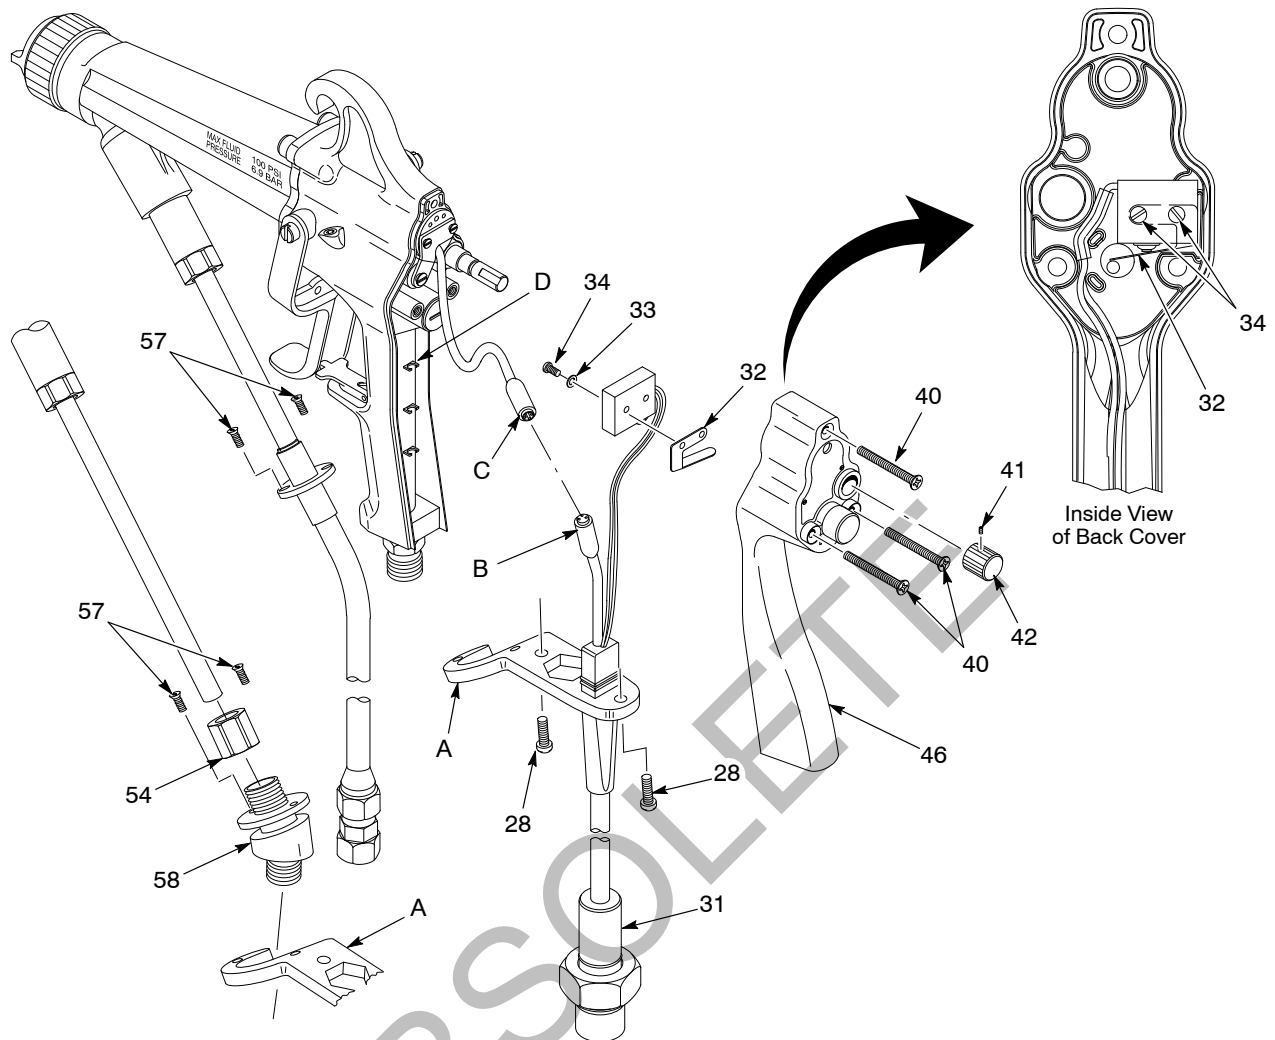

Figure 7-10 Gun Cable Replacement
See Figure 7-10.
1. Secure the actuator switch (32) and electrostatic cable (31) to the back cover with its screws (34) and washers (33).
**NOTE:** The actuator switch should be placed as shown in Figure 7-10. The wires should be to the left of the switch and the metal clip should be placed behind the switch so that its arm extends along the bottom of the switch from the right.
2. Connect the cable connector (B) to the multiplier connector (C).
**NOTE:** Make sure the cable is snapped into the ribbed slots (D) in the back of the handle.
3. Secure the cable bracket to the handle and back cover using the two screws (28). Tighten the screws to 1.36–1.69 N•m (12–15 in.-lb).
4. Install the back cover (46) with the screws (40). Tighten the screws to 0.9–1.13 N•m (8–10 in.-lb).
6. Install the horn air adjust valve knob (42) on the back cover and tighten the set screw (41). Align the set screw with the flat on the knob.